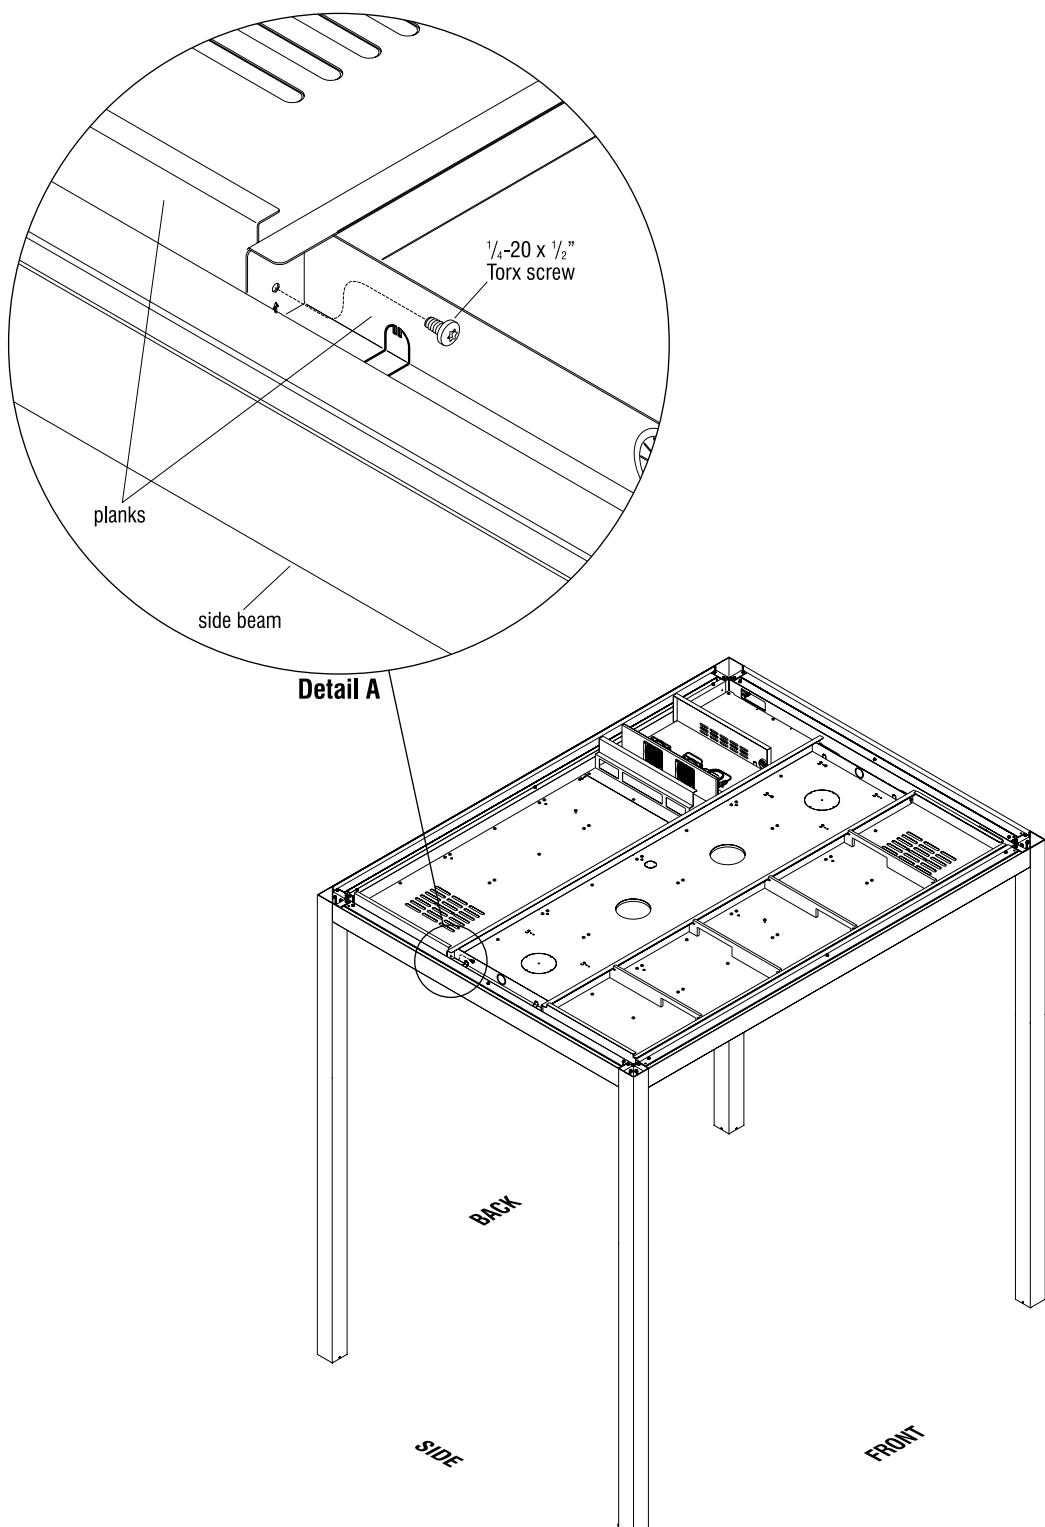

Figure 9
- Once all planks are in place, they must be attached together. Above the planks near the beams, locate the mounting holes on the vertical flanges of each. Align the mounting holes and secure the flanges together using a  $1/4\text{-}20 \times 1/2\text{"}$  Torx screw between each ceiling plank. Complete this at locations where each ceiling planks meets, and at both sides of the room (Figure 9 & Detail A).